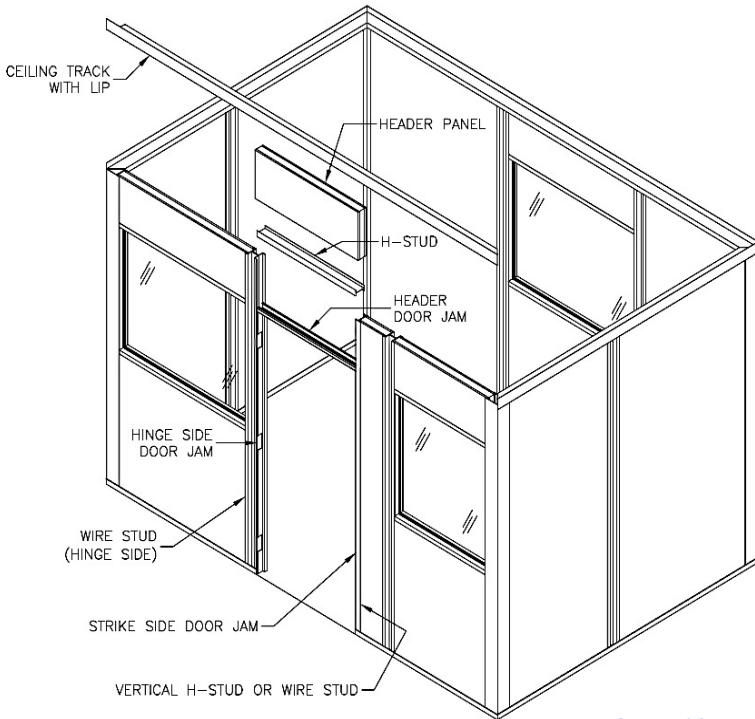

Figure 10
Step 3: Next, insert the top of the door frame, the header h-stud and the header panel. (See Figure 10)